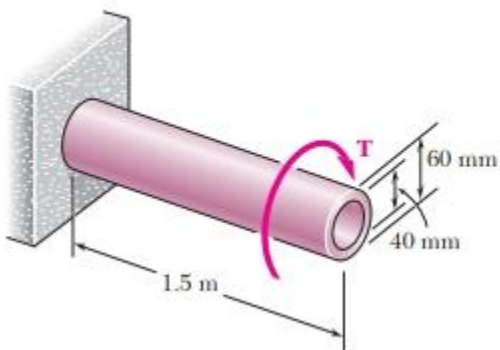

Figure 4.2
- c. A hollow cylindrical steel shaft is 1.5 m long and has inner and outer diameters respectively equal to 40 and 60 mm (Figure. 4.2).